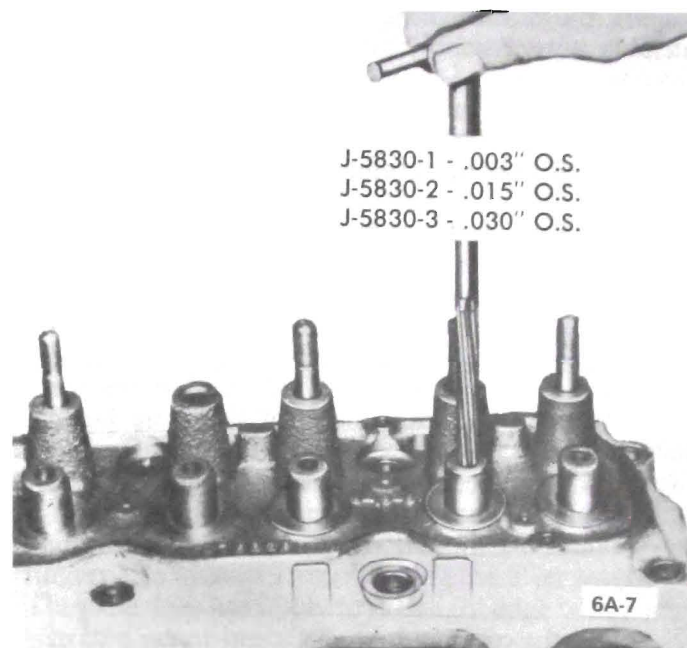

Figure 6A-7 Reaming Valve Guides
12. Lube with engine oil and reinstall valves, valve springs, cap, oil seal, and cap retainer, using same equipment used for removal. Install valve spring with closely wound coil toward the cylinder head. See Figure 6A-5.